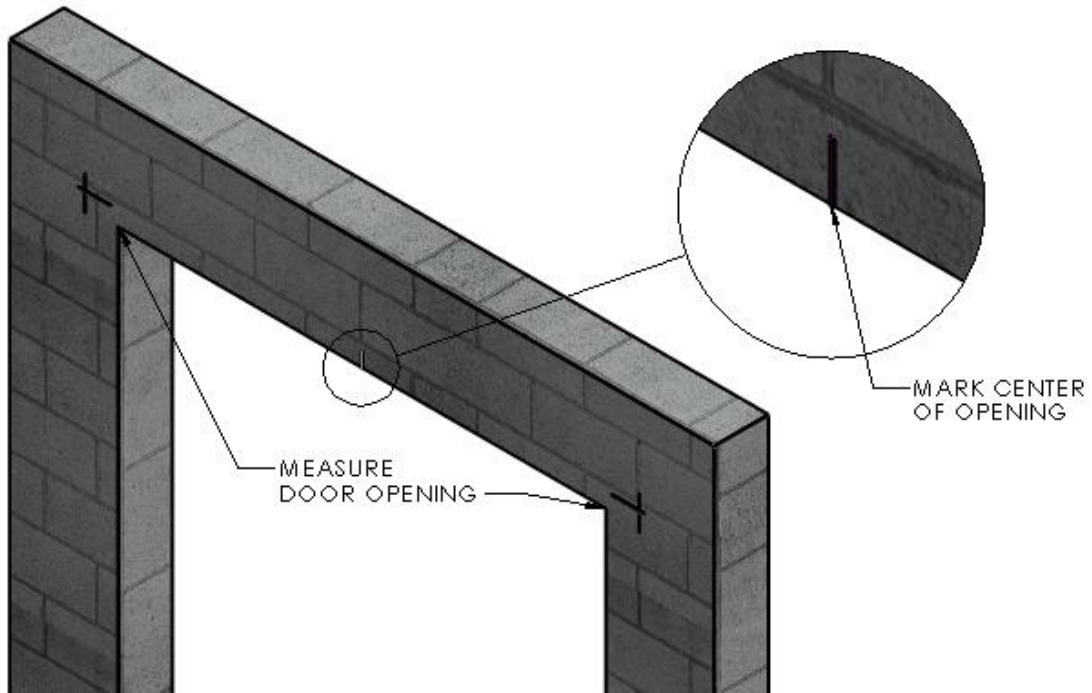

Figure 1 MEASURE/MARK OPENING
1. Measure the width the existing opening, or frame, near the top of the opening. Divide that overall width measurement in half to find and clearly mark the center at the top of the door frame or its header. (Figure 1 MEASURE/MARK OPENING)